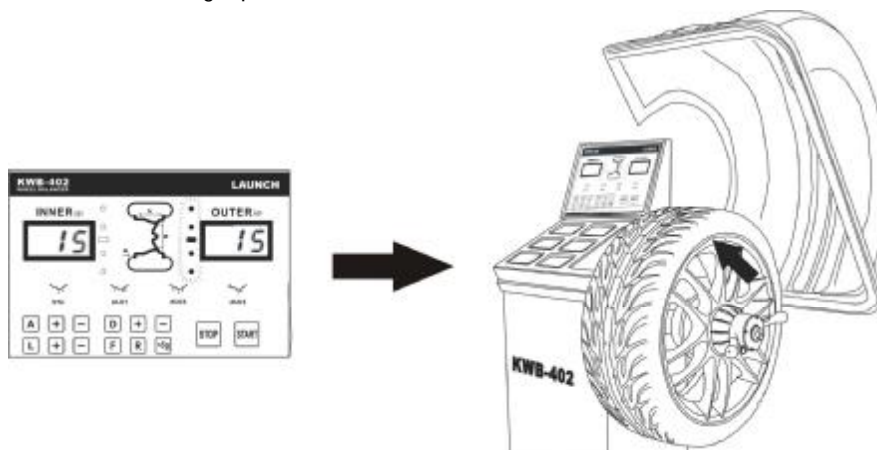

Fig.16
3. Rotate the wheel by hand, and the position indicators flash continuously. When all indicators in one group illuminate, the 12 o'clock position of the rim is the imbalanced point (Fig. 16). The left position indicators are corresponding with the inner side of the rim while the right position indicators are for the outer side.